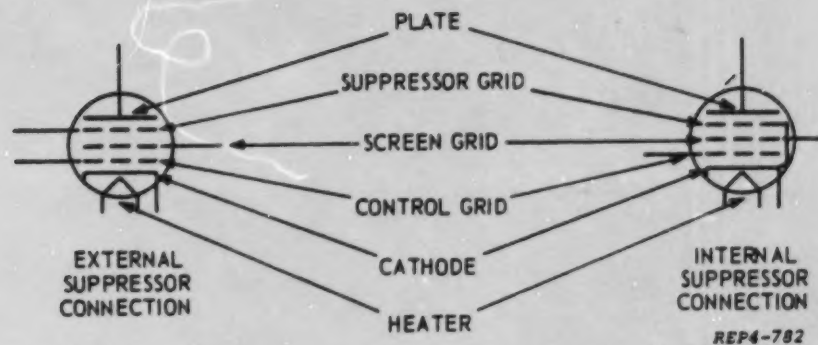

Figure 1
2. Using the tube schematic of figure 1, select from the following list of statements, the one that describes the function of the pentode suppressor grid.
3. Using the schematic of figure 1, select from the following list of statements, the one that describes the function of the beam forming plates of a beam power tube.